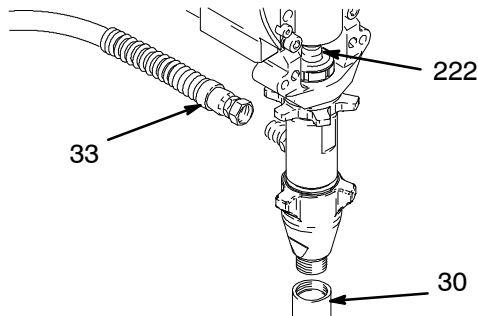

Fig. 15
3. Fig. 15. Cycle pump with piston rod (222) in its lowest position.
4. Fig. 15. Remove suction tube (30) and hose (33).